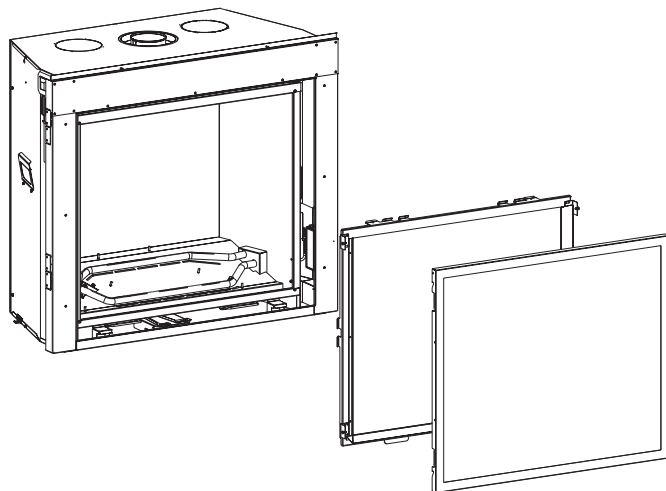

Figure 69
1. Remove the following items: **See Figure 69.**